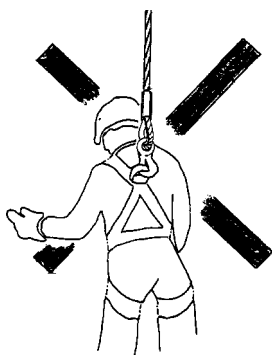

Fig. 3
- Using the winch for the transportation of people (Fig. 3).